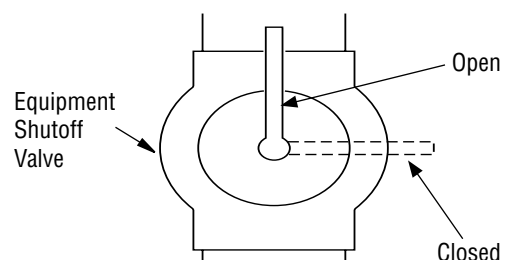

Figure 13 - Equipment Shutoff Valve
1. Close equipment shutoff valve (see *Figure 13*).
1. Open equipment shutoff valve (see *Figure 13*).